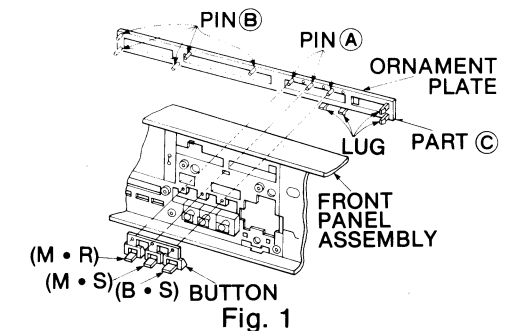

Fig. 1
As shown in Fig. 1, this button is fixed in such a manner that the Front Panel Assembly is sandwiched between the Ornament Plate (G5-1) and the button (G5-2) and three pins (A) are melted by heat. (Four pins (B) are used to fix the Ornament Plate. Refer to Fig. 2.)